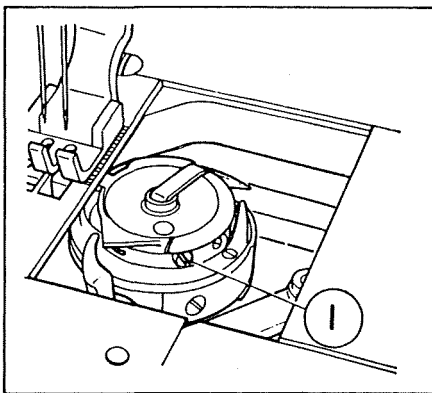

Fig. 12
For adjusting the bobbin thread tension, turn the adjusting screws ① of Fig.12 on the left and right bobbin case holders. Clockwise turn increases and counterclockwise turn decreased the bobbin thread tension.